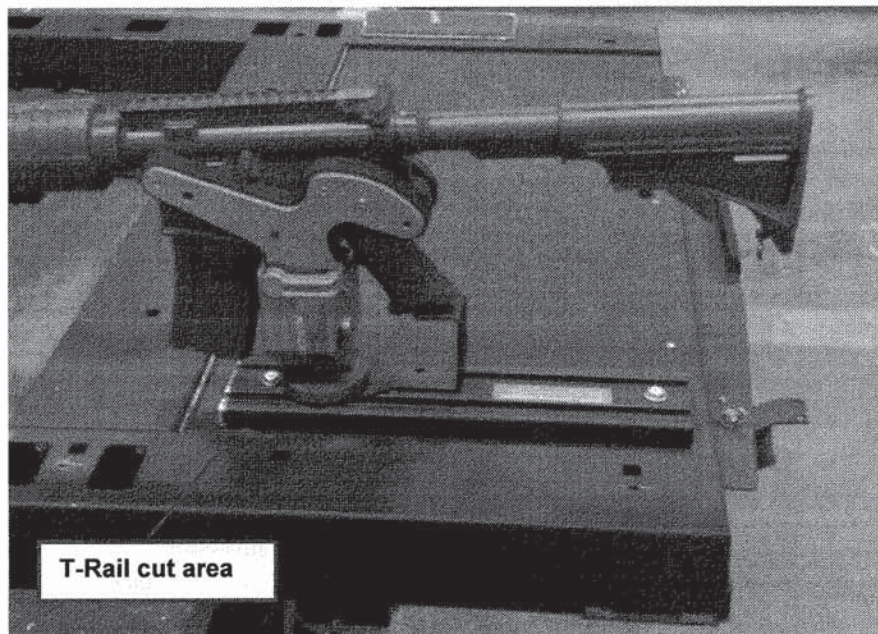

Figure 33 – Example of Blac-Rac™ T-Rail and Blac-Rac™ Model 1080M with integral lock on the D&R Electronics® - Electronics Sub Panel Mount
- c. **Blac-Rac™ Model 1080M with Integral Lock:** This secure rack-type PCVSS is currently one of the three models approved for Police Interceptor Utility marked MP vehicle and is illustrated at *Figures 33 and 34* below:
- (1). Installation of this secure rack-type PCVSS requires the Blac-Rac™ Model 1080M Tactical Weapons Rack with Integral Lock and Blac-Rac™ T-Rail System;
- (2). In this configuration the rack is supplied with an integral high security double-sided (Pagoda style) cam lock. The rack is normally delivered with two identical keys (*Note: This is a proprietary lockset so extra keys cannot be made or copied locally. Key copying and re-keying can only be done by the manufacturer*);
- (3). The rack shall be installed on the T-Rail System which will be installed on the equipment tray in such a manner that the carbine is held horizontally; and
- (4). T-Rail System shall be cut to ensure it allow the D&R Electronics® - 933-0092A Cabinet Subframe with Electronics Sub Panel Mount to open.